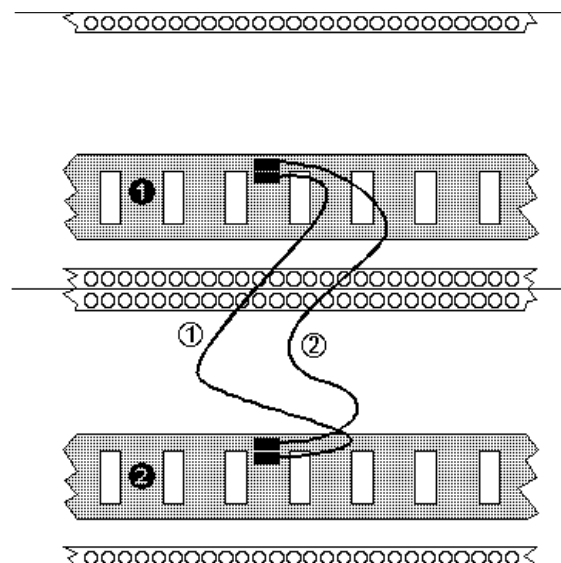

Fig. 4: Making a common INT.CV and INT.GATE signal path between the upper and lower busses.
- Remove Jumpers **J1** and **J2** from the upper (see Fig. 4) and lower system bus boards (see Fig. 4).
- Replace the jumpers with the special CV / gate leads, A-100 BC (see Fig. 4).